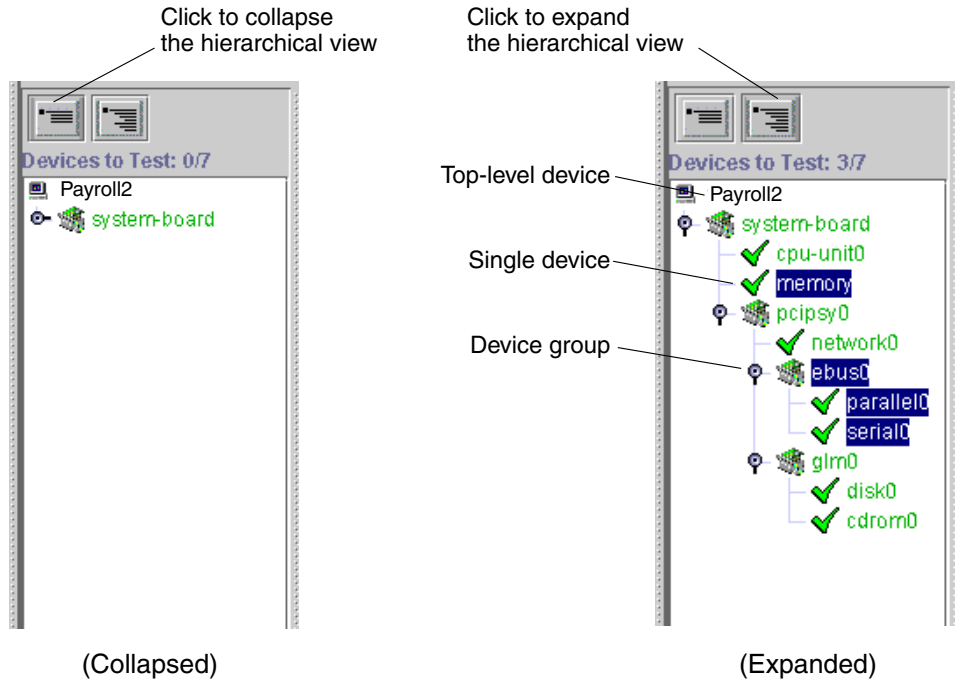

FIGURE 4-1 Expanding the Hierarchical View
1. **If necessary, expand the hierarchy view to show the devices on the host by clicking one of the hierarchy view buttons (FIGURE 4-1).**
The device is highlighted as shown in FIGURE 4-1.